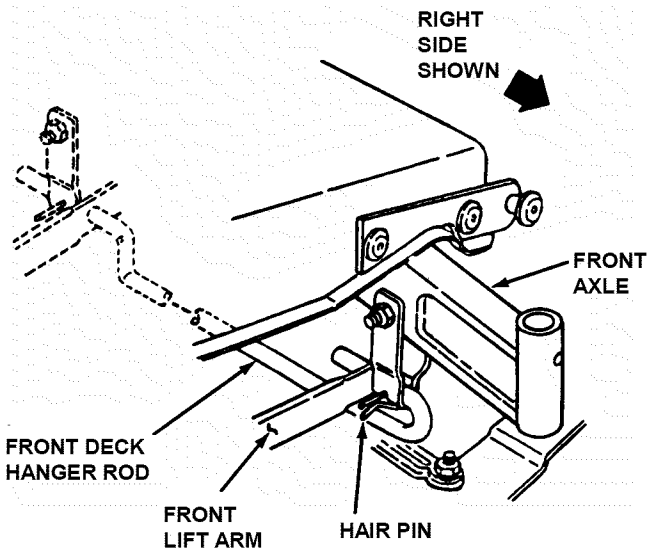

FIGURE 4.29
5. Remove hair pins from the front deck hanger rod. See Figure 4.29.